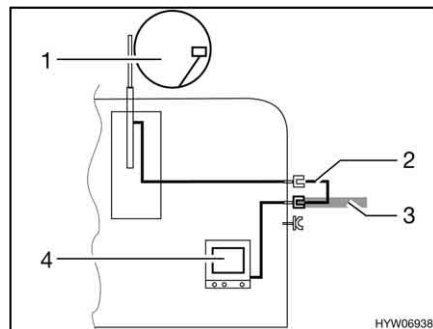

Fig. 179 TV inside the vehicle
- TV inside the vehicle (Fig. 179,4): Connection to roof antenna (Fig. 179,1) with connection cable (Fig. 179,2)
- TV inside the vehicle (Fig. 179,4): Connection to external antenna (Fig. 179,3)